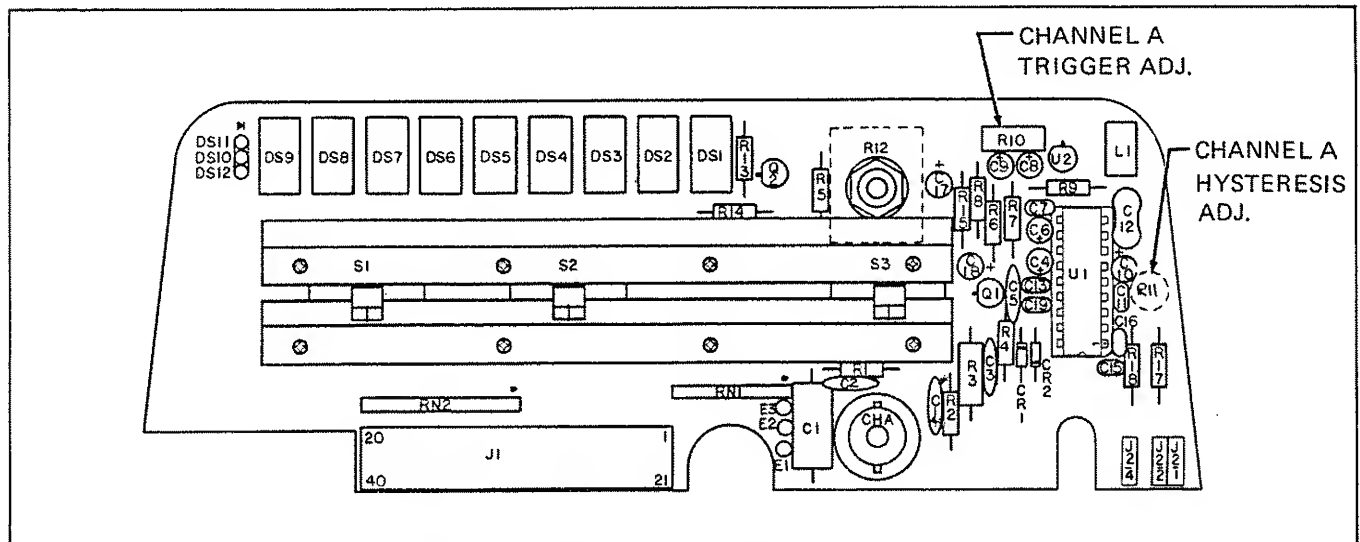

Figure 4-10. Front Panel PCB Adjustment Location
3. Apply 1 MHz at 10 mV rms to Channel A. Adjust R10 Trigger Adjust trimpot (located on the top of A2, the Front Panel PCB; see Figure 4-10) if necessary to obtain a reading of 1.00000 MHz (\pm time base error ± 1 count). Reduce input voltage level and continue to adjust R10 to obtain the correct display, but do not reduce the voltage level below 4.7 mV rms.
4. If R10 cannot be adjusted to obtain the correct reading at the 4.7 mV rms input level, adjust it midway between fully CW and fully CCW. Turn the R11 Hysteresis Adjust trimpot (located on the right rear of A2, the Front Panel PCB; see Figure 4-10) fully CW. Then slowly turn R11 CCW until the correct reading is displayed.